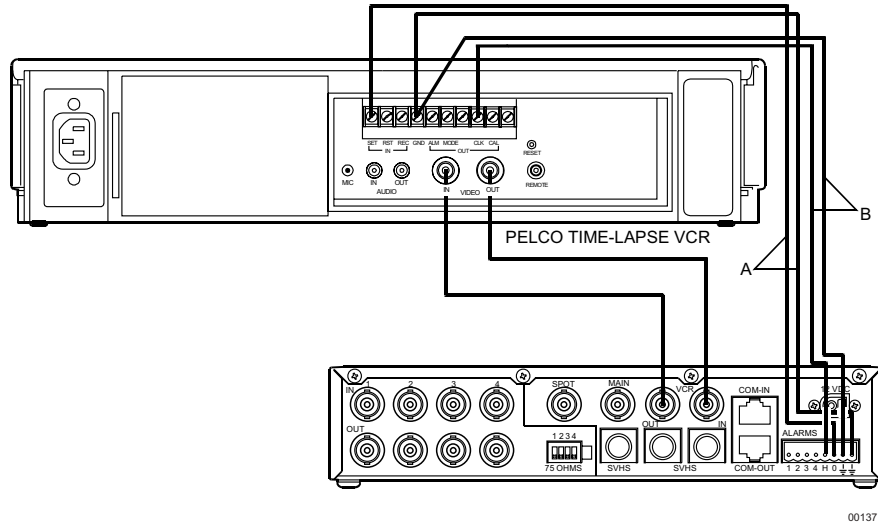
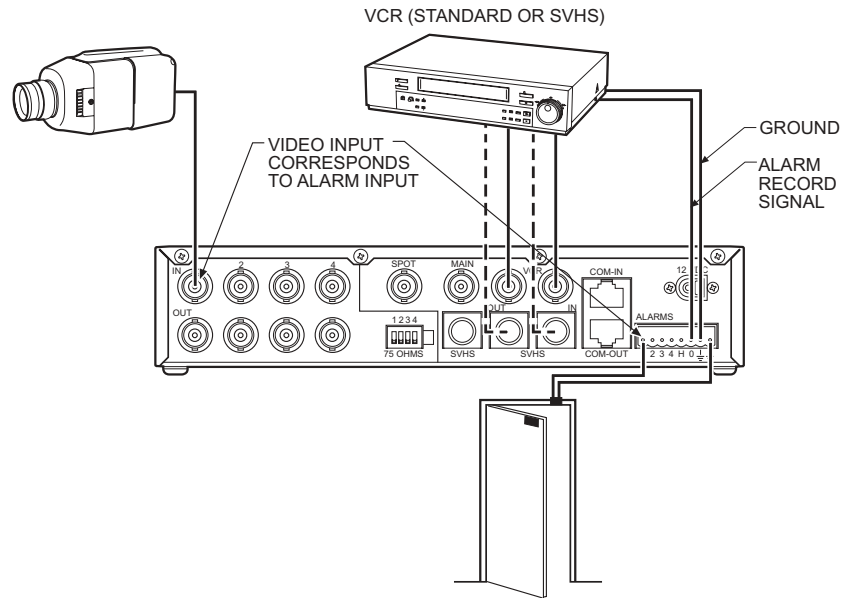

Figure 9. Pelco Time-Lapse VCR Wiring Example
Figure 10. Alarm Wiring Example
To connect one of Pelco's Time-Lapse VCR Models TLR2024, TLR3024, TLR3040, TLR2096, TLR2168, or TLR2168S to the multiplexer (refer to Figure 9):
2. Head (or VCR) Switching Pulse lets the VCR control the multiplexer's recording speed. It is the most efficient recording method. To wire (refer to the "B" lines in Figure 9):
- a. Connect the VCR's CLK output to the multiplexer head switching (H) input to synchronize camera switching.
3. Alarm recording starts and stops when there are alarms. To wire (refer to the "A" lines in Figure 10):
- a. Connect the multiplexer's TTL output relay (O) terminal to the VCR's SET IN (alarm input) or ALM IN terminal.
To wire the alarm inputs (refer to Figure 10):